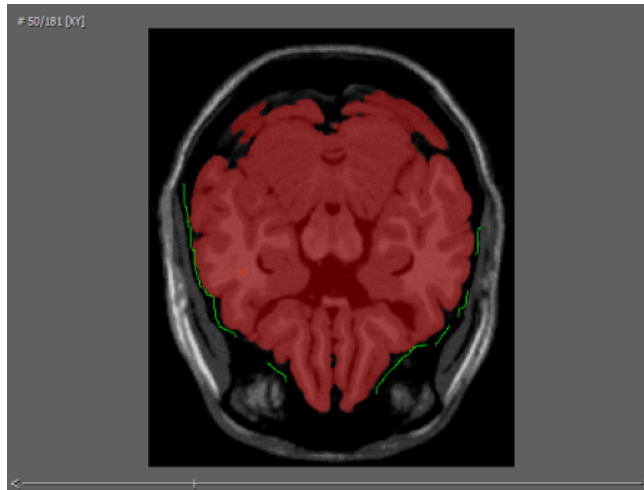

Figure 15.5: To prevent the Magic Wand tool to select non-brain voxels draw limit lines as shown in this Figure
- Proceed to slice 50. Here you will note that the selection "bleeds out" (selects non-brain voxels). Use the *Draw limit line* tool (shortcut 'l') and draw lines similar as shown in Fig. 15.5. Also here, use 'f' to fill and Ctrl+m to smooth.